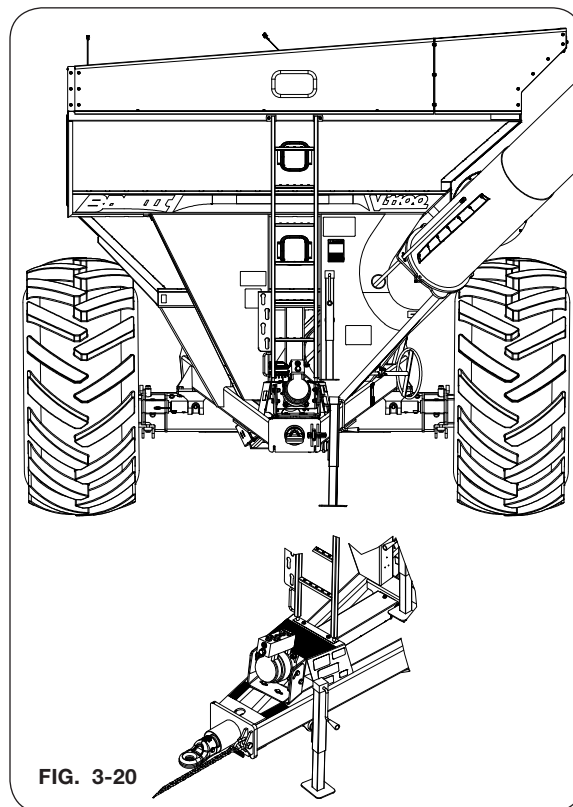

FIG. 3-20
4. Open flow control door to desired unloading rate. Numbers on the auger tube provide a point of reference for operator convenience. (FIG. 3-20)
The optional hydraulically-driven auger permits cart operation using tractors that are not equipped with a PTO. However, due to the power requirements of a grain cart, it should be expected that a hydraulically-driven grain cart will not unload as quickly as a PTO driven cart. (FIG. 3-20)